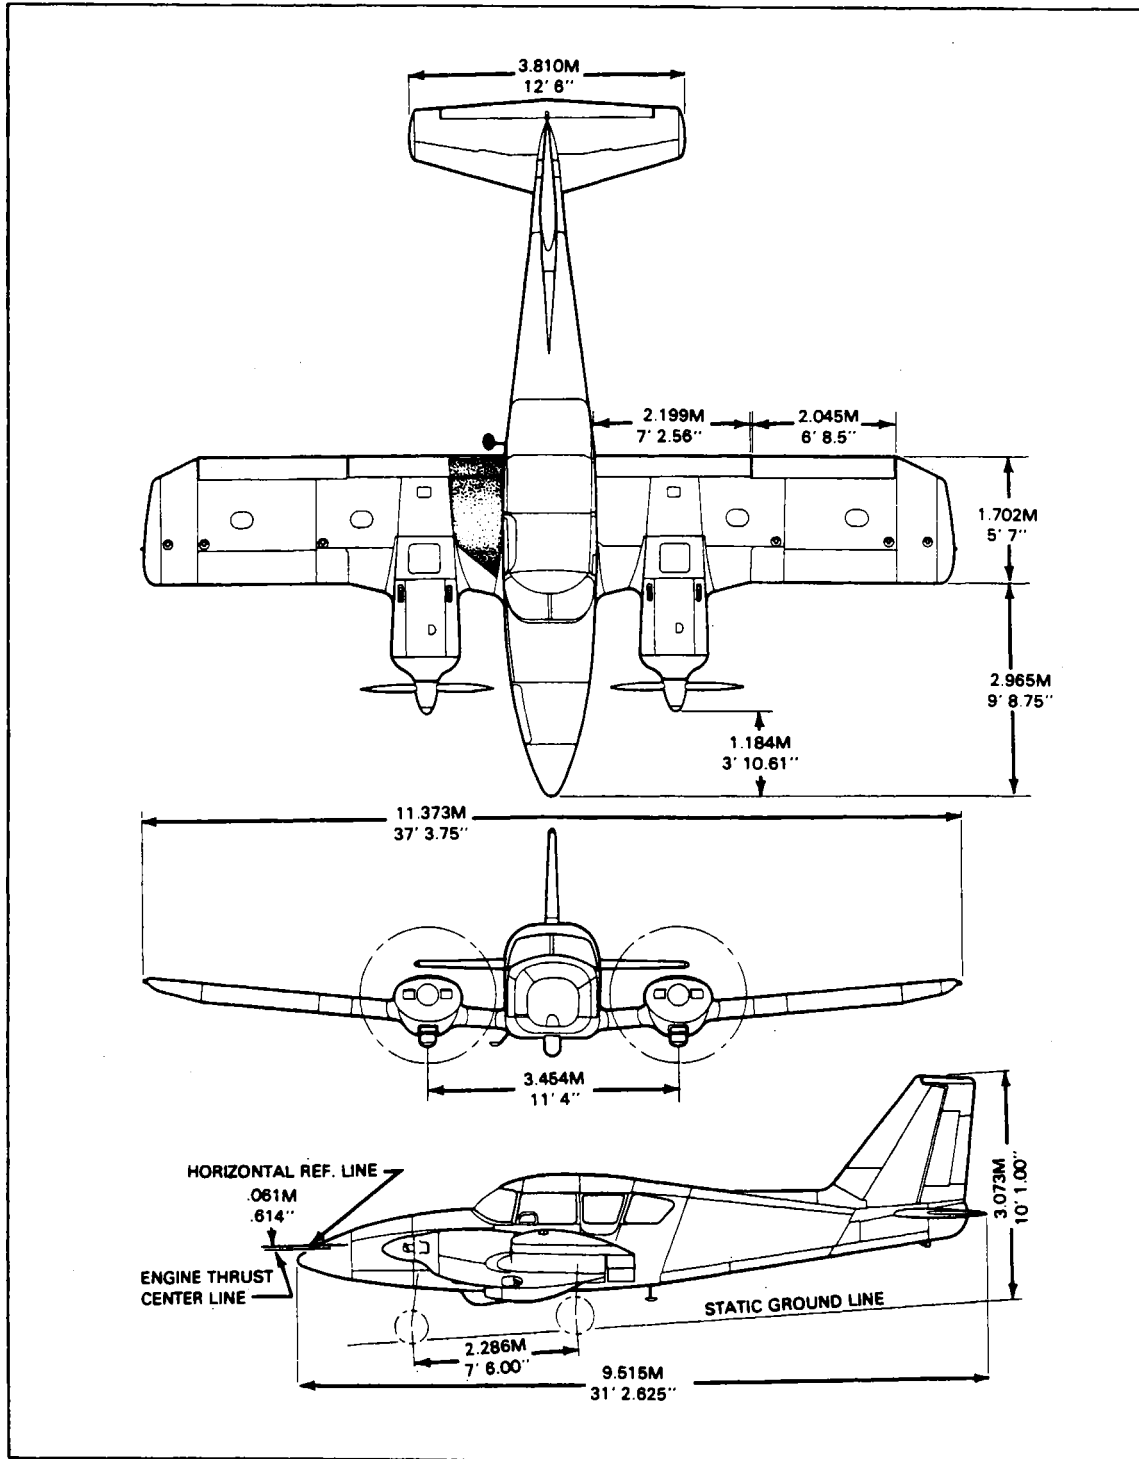

Figure 2-6. Three-View of PA-23-250 (six place)
2-3. STATION REFERENCE LINES. In order to facilitate the location of various components of the airplane which require maintenance and servicing, a method utilizing fuselage station (Sta.), wing station or buttock line (BL), and water line (WL) designations is frequently employed in this manual. (Refer to Figure 2-6.) Fuselage stations, buttock lines, and water lines are reference points measured by inches in the vertical or horizontal direction from a given reference line which indicates station locations of structural members of the airplane. The BL station 0 of the wing and stabilator is the center line of the airplane; and station 0 (WL) of the vertical stabilizer and rudder is 12 inches below the bottom edge of the forward left side window.